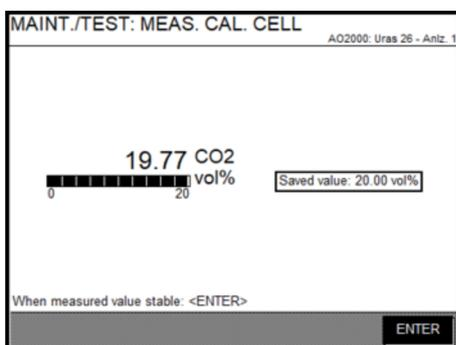

Figure 40: CO2 end point with calibration cell
2. Please wait until the measured value is stable (Figure 40).